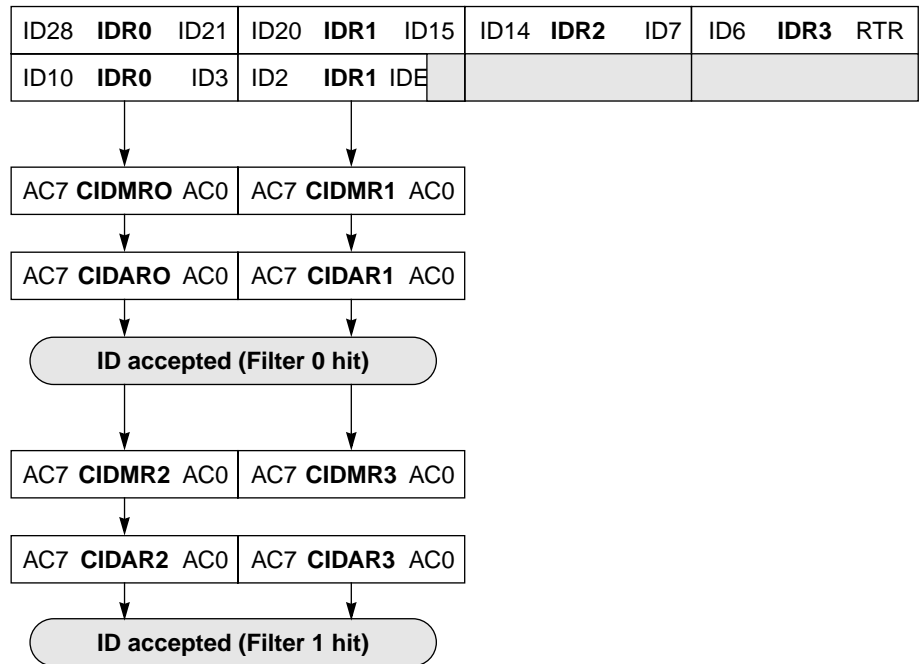

Figure 47 16-bit Maskable Acceptance Filters
- Four identifier acceptance filters, each to be applied to a) the 14 most significant bits of the extended identifier plus the SRR and IDE bits of CAN 2.0B messages or b) the 11 bits of the standard identifier, the RTR and IDE bits of CAN 2.0A/B messages. Figure 47 shows how the first 32-bit filter bank (CIDAR0–3, CIDMR0–3) produces filter 0 and 1 hits. Similarly, the second filter bank (CIDAR4–7, CIDMR4–7) produces filter 2 and 3 hits.